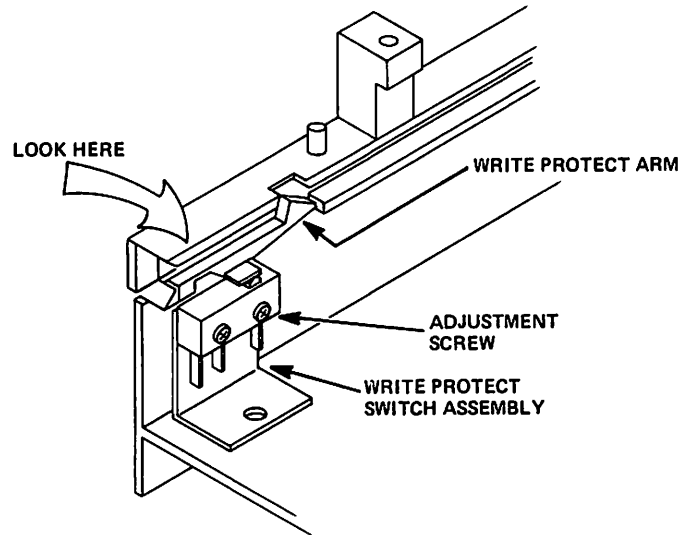

Figure 5-23
5.12.1 Visually ensure that the arm on the Write Protect Switch Assembly moves the switch and makes a clicking noise when the arm is pushed down (see Figure 5-23).
5.12.12 Verify the output of the Write Protect Switch Assembly by raising and lowering the rear of the switch (see Figure 5-23).